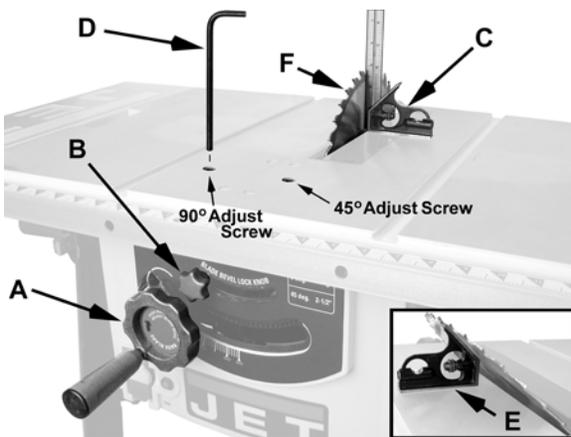

Figure 19
Referring to Figure 19:
5. While maintaining the hold on the handwheel, use a 6mm hex wrench to turn the *90 Adjust Screw* (Figure 19) until the blade is 90° to the table.
6. Tighten the *blade tilt lock knob* (B).
5. While maintaining the hold on the handwheel, use a 6mm hex wrench to turn the *45 Adjust Screw* (Figure 19) until the blade is 45° to the table.
1. Using the handwheel (A, Fig. 19), raise the saw blade as high as it will go.
1. Using the handwheels, raise the blade arbor fully and lock the saw at zero degrees (see steps 1–3 in the *90 Degree Positive Stop* section); then tighten the *blade tilt lock knob* (B, Fig. 19).